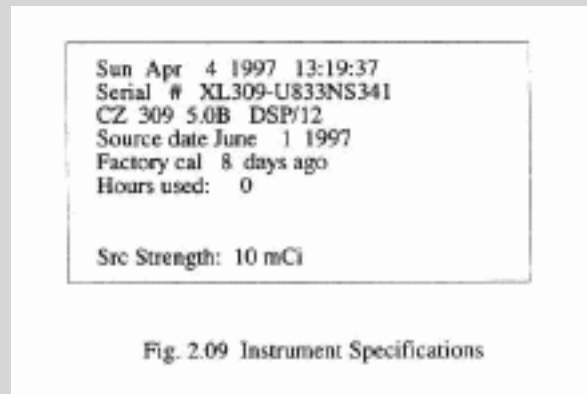

Fig. 2.09 Instrument Specifications
**To check the source strength of your instrument and other useful information, select the Instrument Specification screen (Figure 2.09) from the Setup Menu with the Arrow buttons. Press Clear/Enter. The screen displays the following information:**